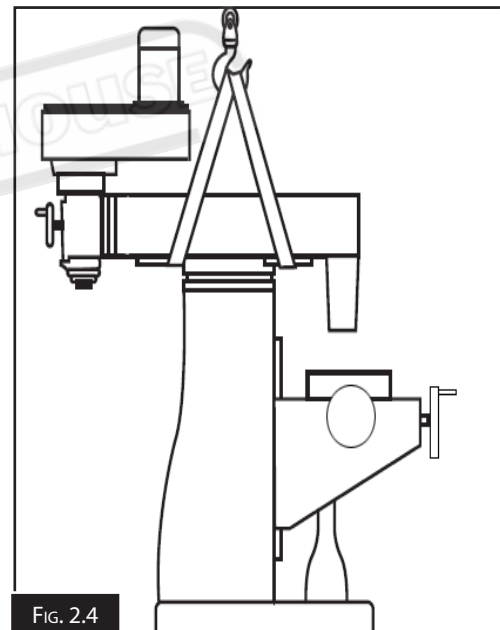

FIG. 2.4
3. Place lifting straps under ram and connect to a safety hook, (Fig. 2.4)